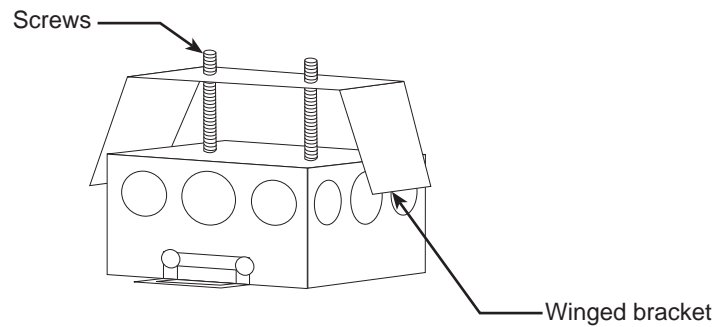

Figure 16. Installing wing bracket
2. If it has not been done already, attach the winged bracket to the back box as shown in figure 16 using the 2 screws provided.